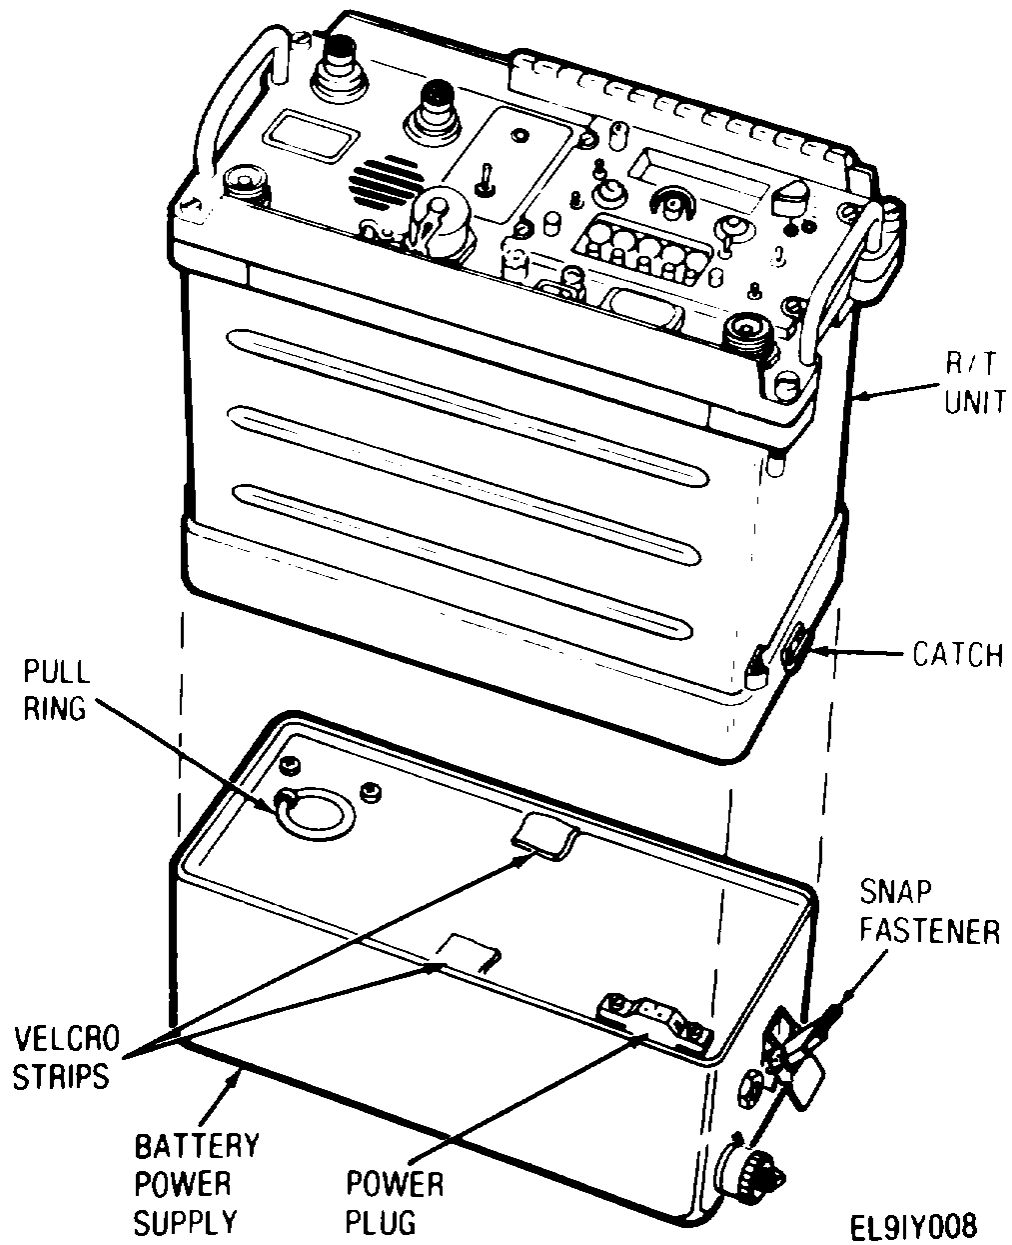

Figure 3-1. Battery Power Supply Removal Installation Diagram
The snap fasteners shown in figure 3-1 are spring loaded. To avoid pinched fingers, use care when snapping or unsnapping fasteners.
To remove or install the battery power supply, refer to Figure 3-1. position R/T unit power switch to OFF and perform the following steps.
- (1) Position battery power supply as shown in Figure 3-1
- (2) Ensure pull ring is flat against top of insert as shown
- (3) Align R/T unit directly over battery power supply with bottom toward you.
- (4) Slowly lower the R/T unit onto the battery power supply
- (5) Gently press down on the R/T unit handles until the power plugs are fully seated
- (6) Position snap fastener latches over catches on R/T unit
- (7) Press down on snap fastener levers until levers snap into place.